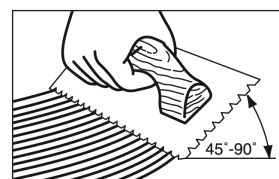

Figure 13
- Hold trowel at a minimum 45° angle (Figure 13) firmly against the subfloor to obtain proper spread rate per gallon.